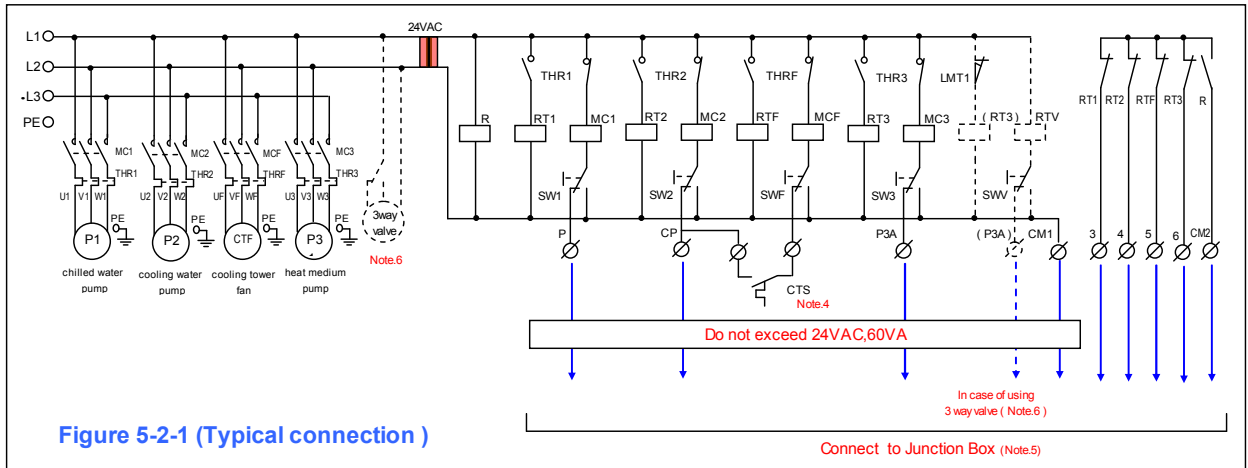

Figure 5-2-1 (Typical connection)
All connection according to figure 5-2-1 must be supplied externally by others.
- Note 5. The symbols shown in Figure 5-2-1 as P,CP,P3A,CM1,3,4,5,6,CM2 are connect to terminals located in Junction box (section 5-3.).